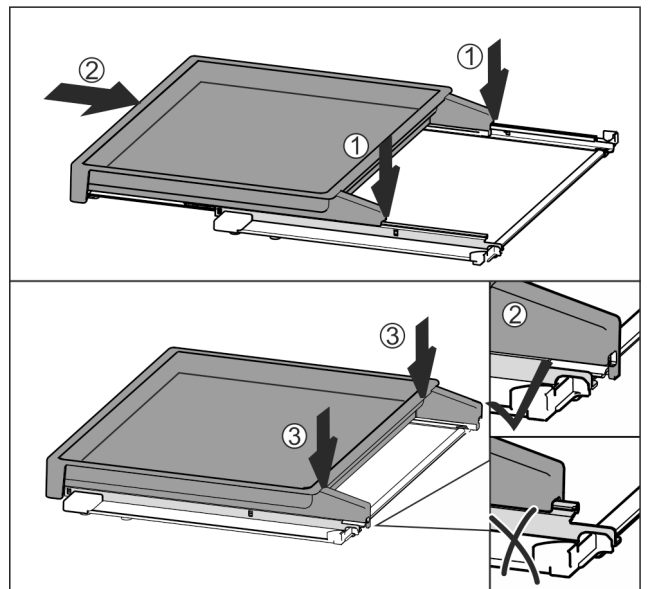

Fig. 62
- ▶ Place centrally on the rails Fig. 62 (1).
- ▶ Slide the pull-out board all the way in Fig. 62 (2).
- ▶ Press down at the back until it clicks into place Fig. 62 (3).